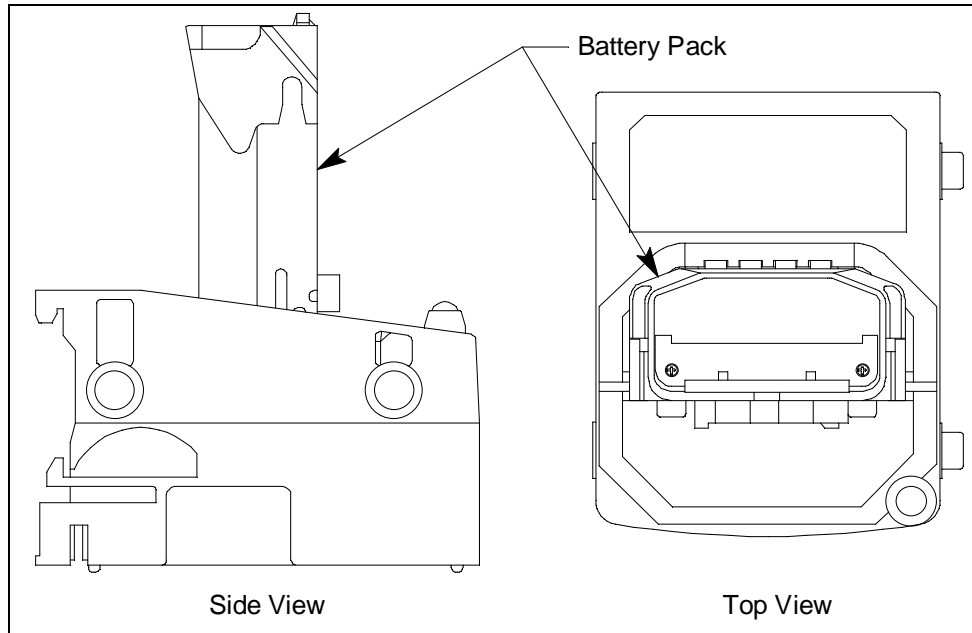

Figure 21: Putting the Battery Pack into the Charging Station
- 5 . Insert the battery pack into the charging station as shown in Figure 21 below so that the metal contacts on the back of the battery pack come into contact with the metal contacts in the charging station. When proper contact has been made, the red LED on the charging station will turn on.